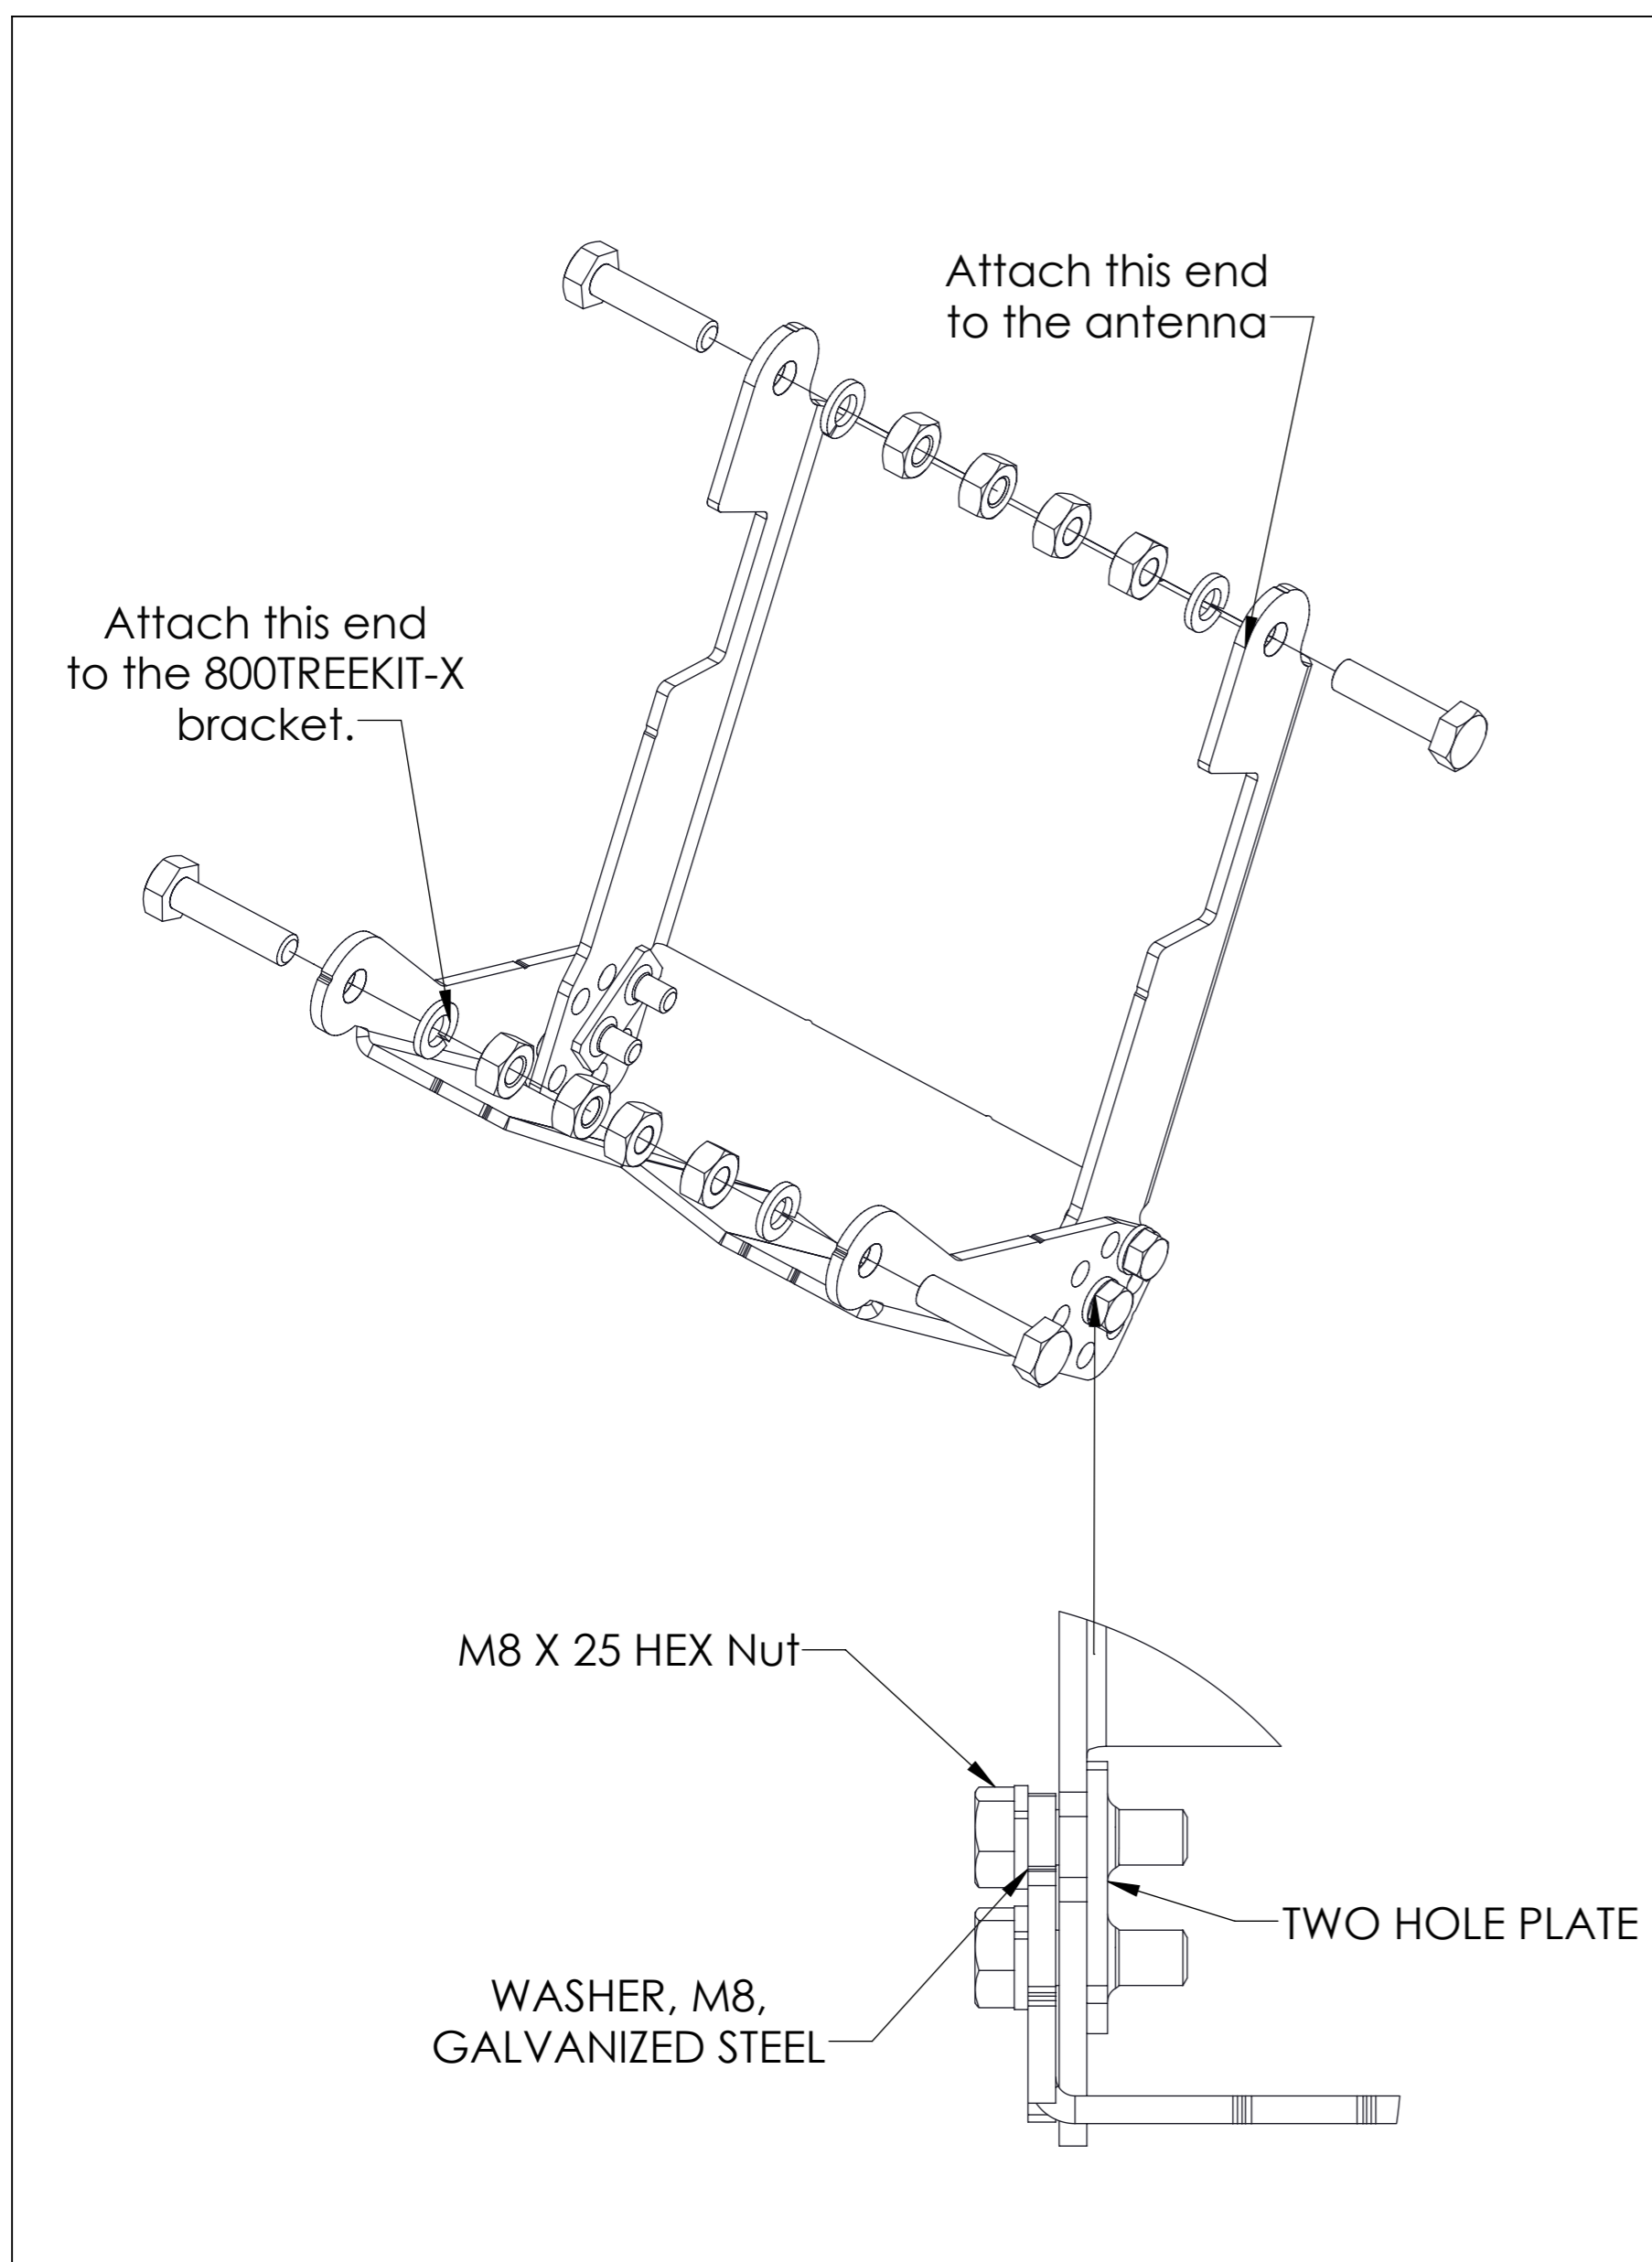

Figure 10. BSAMNT-1/3 Downtilt Assembly.
1. Assemble the bracket links and hardware as shown in Figure 10.
See Figure 10 and 11.